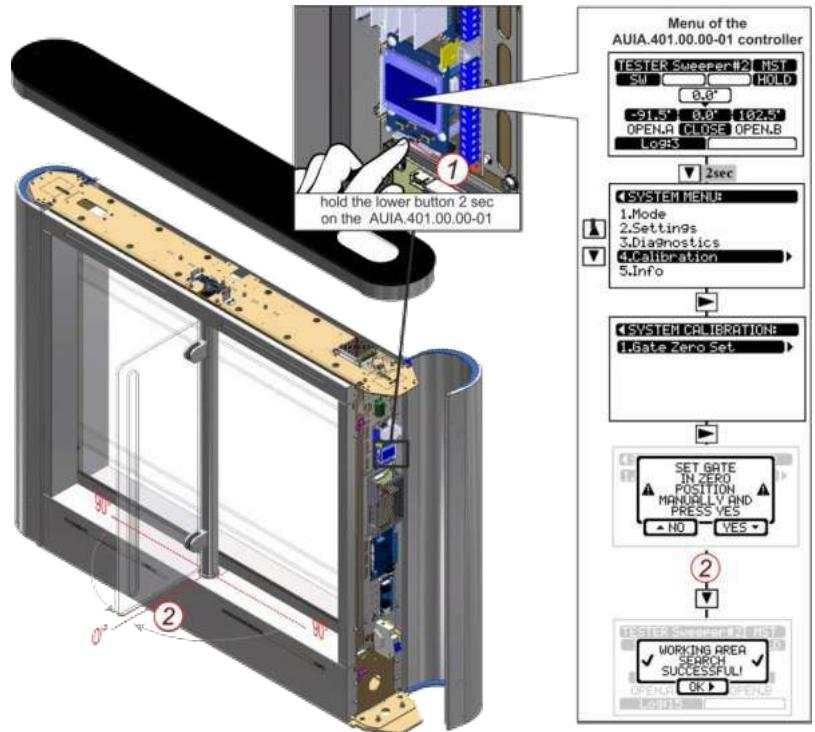

Fig.25 – Adjustment of the leaf zero position using the menu of controller AUIA.401.00.00-01
**Option II (with AUIA.401.00.00-01 fig.25)**
- Run the menu holding for 2 seconds the lower button (1) on the controller **AUIA.401.00.00-01** and choose “Calibration”->“GateZeroSet” controller. If you request a calibration procedure, the turnstile will go to “OFF” mode.
- Set the zero point of both leaves of Master and Slave cabinets manually (CLOSE position (3))
- Confirm the start of working area search procedure by pressing “YES” (2) on the AUIA.401.00.00-01 controller display.
- The controller will save the user-set point as zero (**CLOSE** position (2)) and automatically determine the minimum and maximum of working area.